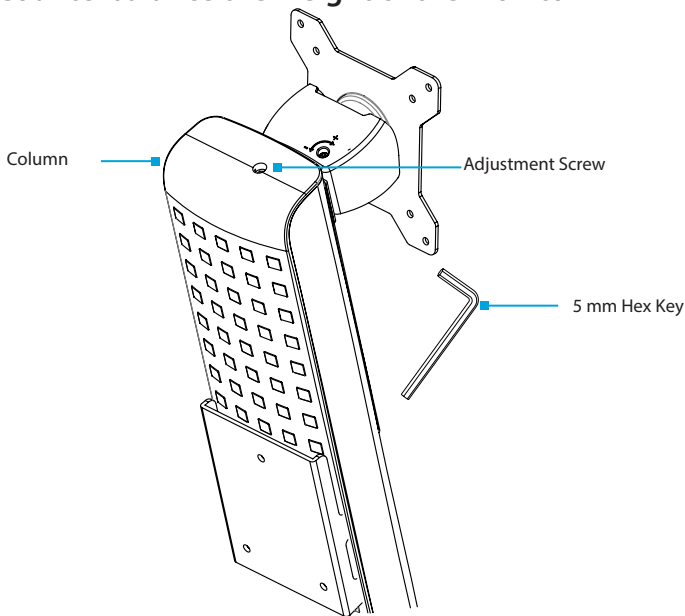

Figure 17
- If the **Monitor** doesn't remain in the set position, or it's difficult to raise or lower, use the **5 mm Hex Key** to turn the **Screw** in the top of the **Column** to adjust the tension of the **One-Touch Height Adjustment Spring**. (Figure 17)